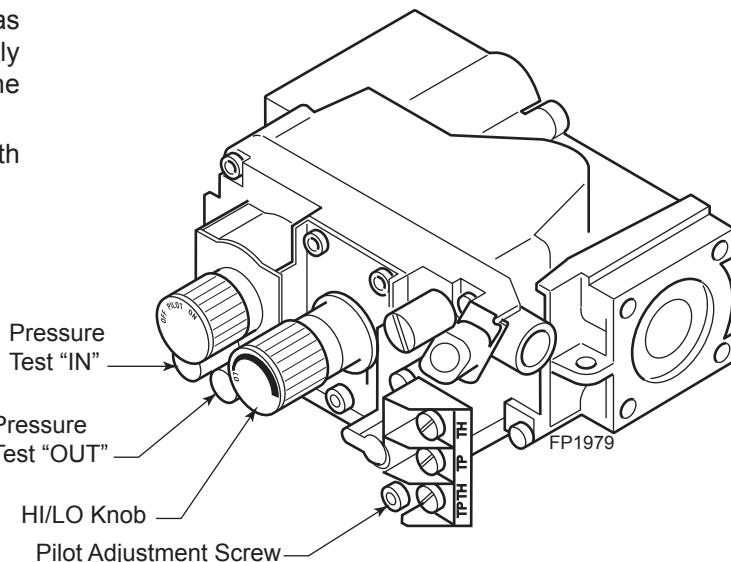

Figure 44 -
5. To check gas pressures at valve, turn captured screw counter clockwise 2 or 3 turns and then place tubing to pressure gauge over test point. Turn unit to high. *Figure 44.* After taking pressure reading, be sure and turn captured screw clockwise firmly to reseal. Do not over torque. Check test points for gas leaks.